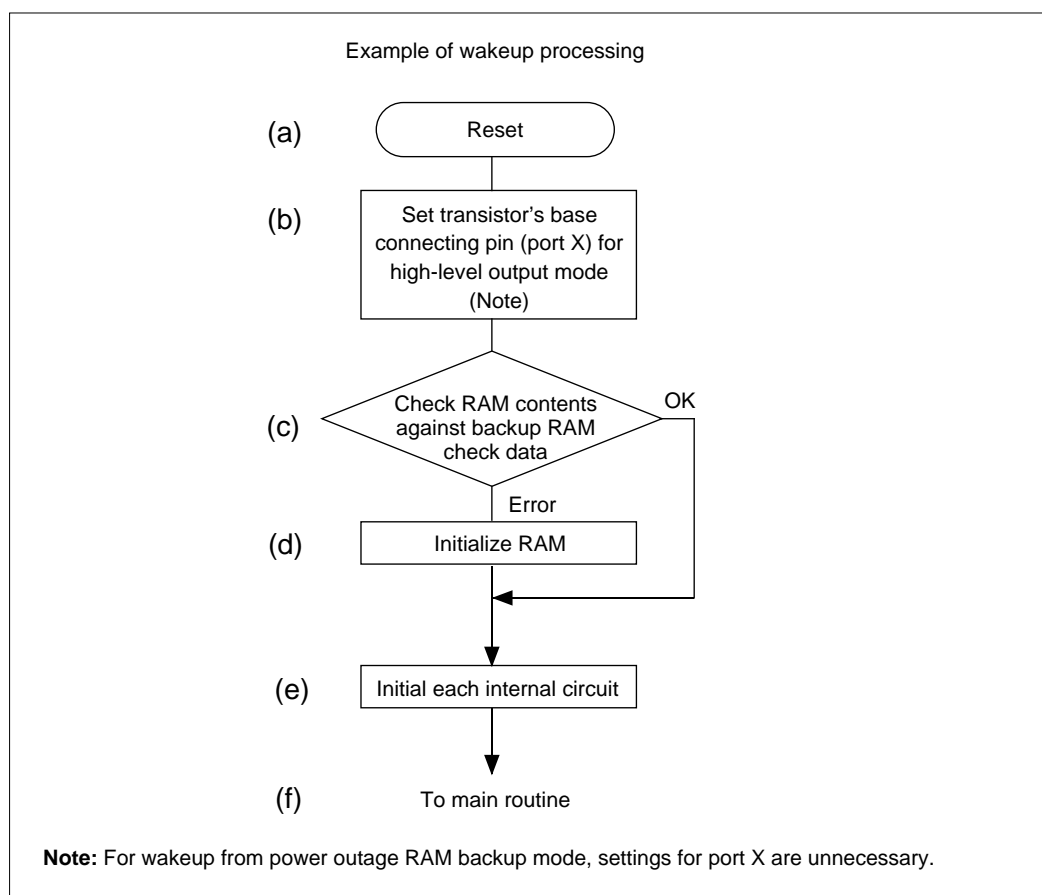

Figure 17.4.1 Wakeup Processing
Processing to exit RAM backup mode and return to normal operation is referred to as "wakeup processing." Figure 17.4.1 shows an example of wakeup processing. Wakeup processing is initiated by reset input. The following shows how to execute wakeup processing.
- (1) Reset the device ((a) in Figure 17.4.1). For details about reset, refer to Chapter 7, "Reset."
- (2) Set port X for output mode and output a high from the port ((b) in Figure 17.4.1).(Note)
- (3) Check the RAM contents against the check data created before entering RAM backup mode ((c) in Figure 17.4.1).
- (4) If the RAM contents and check data did not match when checked in (3), initialize the RAM ((d) in Figure 17.4.1). If the RAM contents and check data matched, use the retained data in the program.
- (5) After initializing each internal circuit ((e) in Figure 17.4.1), return the main routine ((f) in Figure 17.4.1).